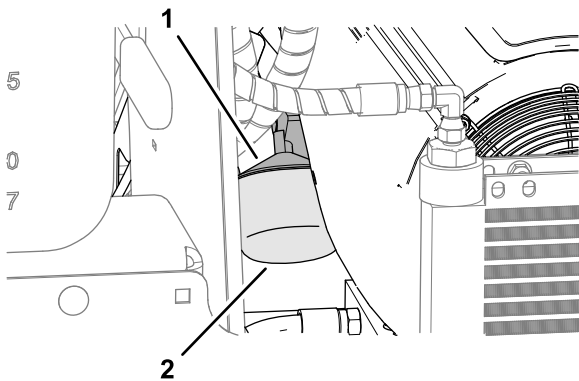

Figure 73
2. Remove the oil filter from the engine (Figure 73).
3. Thread the new oil filter onto the filter adapter of the engine (Figure 73) until the gasket contacts the adapter, then tighten the filter an additional 1/2 to 3/4 turn.